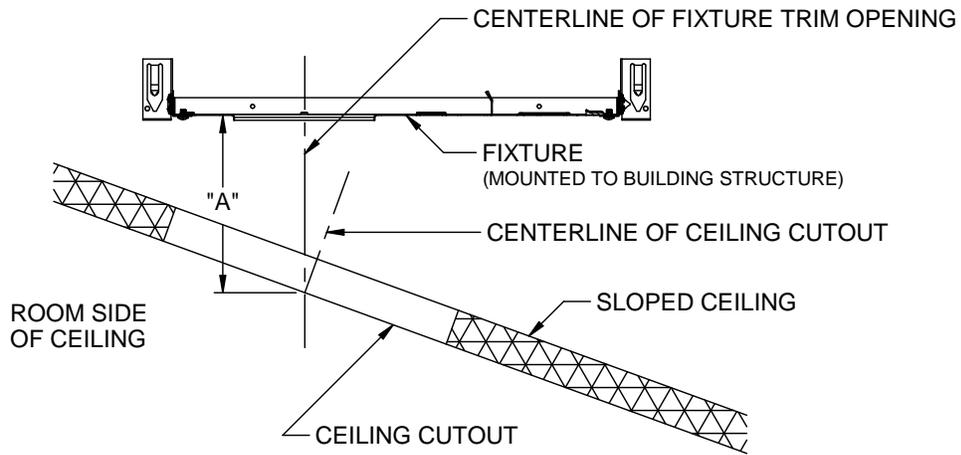

FIG 1
1. Determine the desired location of the fixture and mount the light fixture to building structure in compliance with the national electric code where the center line of the fixture trim opening on the frame or frame void is in line with the center of the desired fixture location in the ceiling. **IMPORTANT:** Make sure that the edge of the fixture frame shown in "FIG 1" is within the distance "A" (provided in Table 1) of the center point of the desired fixture location on the room side of the ceiling as shown in "FIG 1" based on the SCA accessory trim size, ceiling thickness, and ceiling slope. **NOTE:** To avoid interference of the fixture with the sloped ceiling; note orientation of fixture frame relative to slope ceiling shown in "FIG 1" for best fixture installation. Reference LITEFRAME® 2.0 fixture instructions for more details on installing the fixture included with the housing.